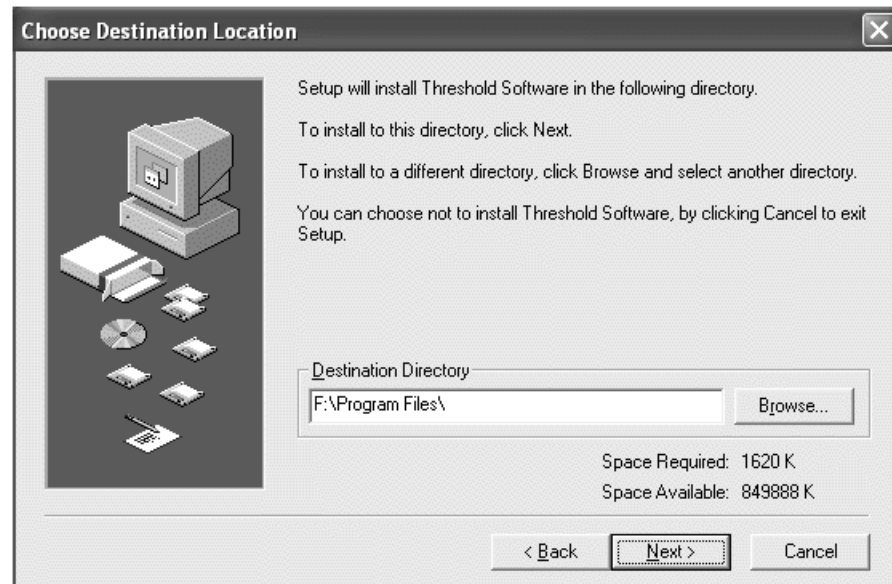

Figure E-10: Choose Destination Location Screen
- 5) The **Choose Destination Location** screen opens (Figure E-10).